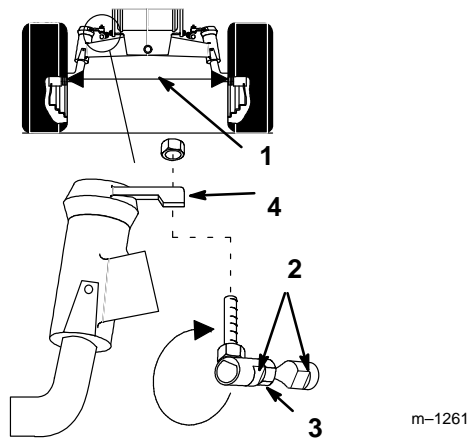

Figure 30
Maintain toe-in of the front wheels as specified. If uneven tire wear, lawn scuffing or hard steering develop adjustment may be required. Check the toe-in after every 100 operating hours or yearly, whichever occurs first (Fig. 30).
3. Measure, between the rims, at spindle level, in the front and rear of the wheels (Fig. 30).
2. Remove ball joint from one steering lever (Fig. 30).
4. Hold flats on ball joint to align with flats on tie rod and tighten jam nut (Fig. 30).